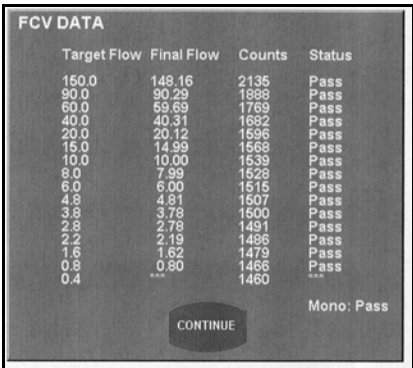

Figure 7.32
- 7. Once the FCV Characterization has passed Press Display FCV Data (Figure 7.32).